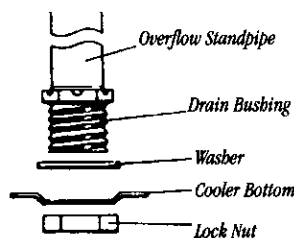

FIGURE 12
4. Connect (copper/pvc/garden hose) to drain bushing and drain in accordance to local codes (see Figure 12).